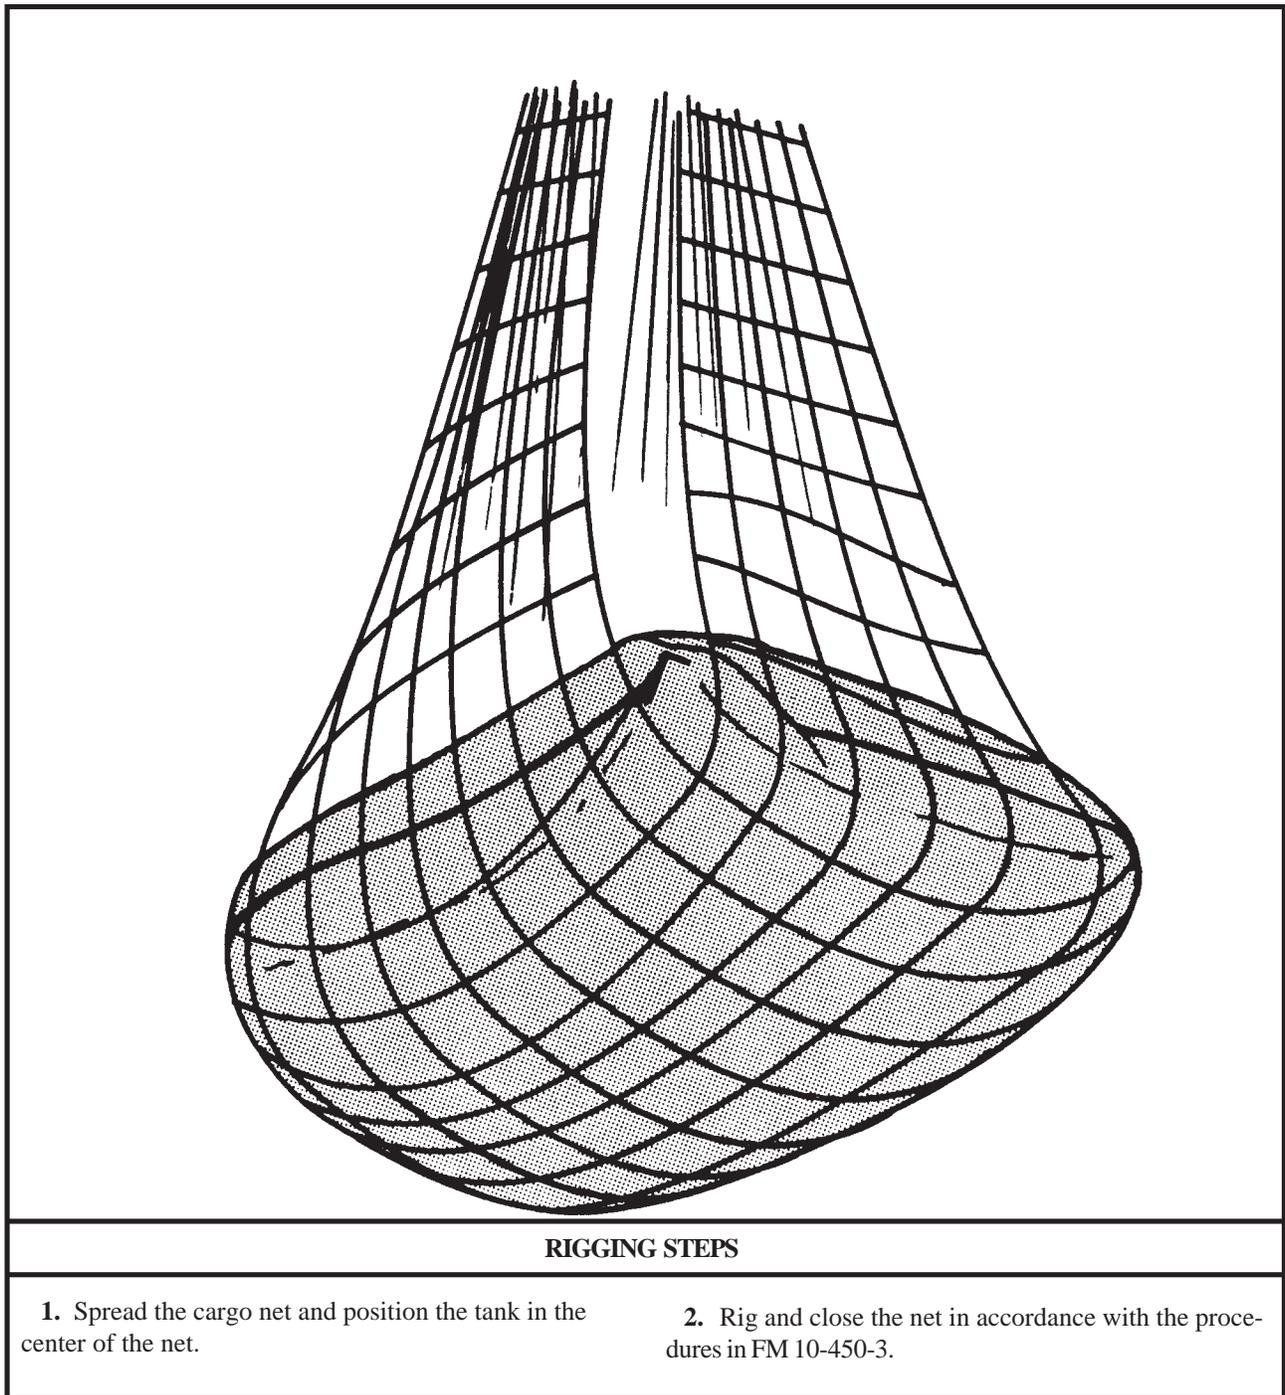

Figure 9-1. Lightweight Collapsible Fabric Tank
(2) **Rigging.** Rig the load according to the steps in Figure 9-1.
(4) **Derigging.** Derigging is the reverse of the preparation and rigging procedures in steps d (1) and d (2).